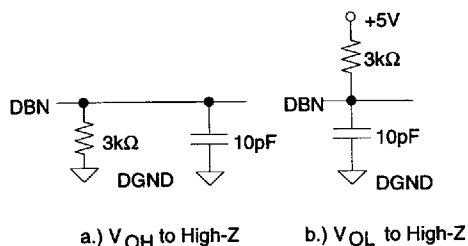

Figure 6. Load Circuits for Output Float Delay
- Defined as the time required for the data lines to change 0.5V when loaded with the circuits of Figure 6.